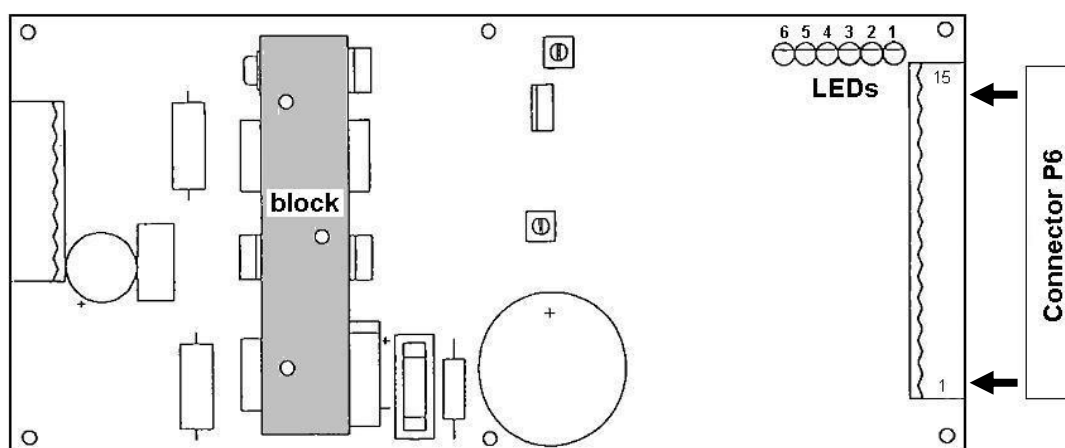

Figure III-5 : Source board
4. After the acquisition, verify if any red LED is lit on the source board (see Figure III-5). If yes, the problem is due to the source. Furthermore there is a reset problem (Conductivity of the reset cable or CPU removed)
6. Put some heat-conductive paste on the front surface of the big metallic block on the source board (→ p. 28 Figure III-5, the mentioned surface is painted grey)
2. Check the LED on the source board (→ Figure III-5).